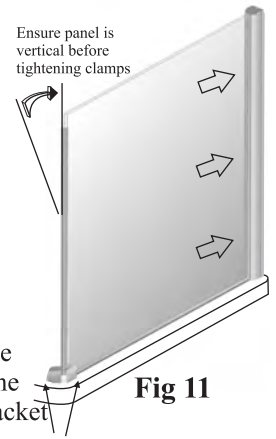

Fig 11
6.2 Insert large side panel into wall profile glass clamps (see Fig.11) with the soft seal onto the tray and the fitted corner bracket to the front. Move the panel in or out until the corner bracket is spaced equal distance from the front edge of the tray as it is from the side face of the tray. Ensure the panel is vertical then fully tighten the 3 glass clamps screws using a flat-headed screwdriver see Fig 22. If after adjusting for vertical, the corner bracket is not seated firmly on the tray, loosen grub screws and tap the bracket down onto the tray (caution - do not exceed 5mm adjustment on this bracket) Pack between bracket and tray if you require more adjustment.